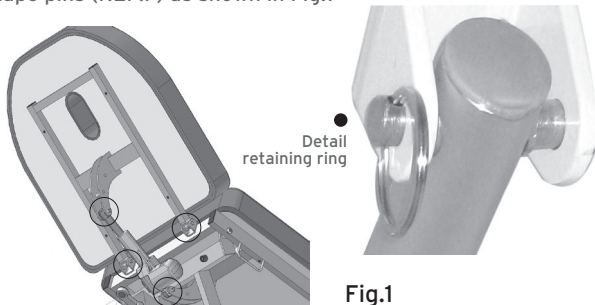

Fig.1
- Proceed with the assembling of the headrest (only for MI38XX-MI39XX models) and the actuator to the bed frame using the accessory kit of pins (REF.E), secure them with the ring shape pins (REF.F) as shown in Fig.1